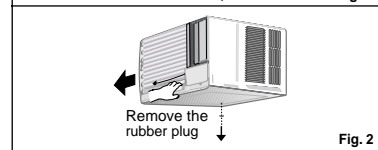

Fig. 2
1. Remove the rubber plug and slide the chassis out from the cabinet. (See Fig. 2)
2. Pull the bottom window sash down behind the upper guide until it meets. (See Fig.2)